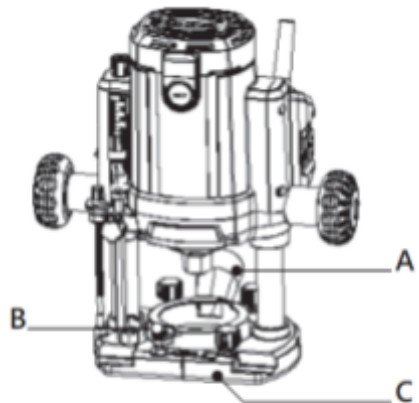

Figure 2
3. Installing the Dust Extraction Spout (Figure 2)